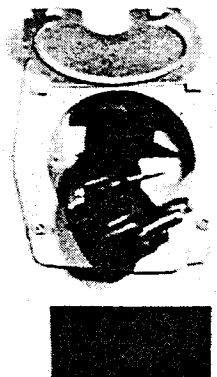

FIG. 15A
**Shoreline Connection** — Open the protection hatch and pull out the power cord (FIG. 15A or B). Plug the cord into a 110/125 VAC, 60 Hz. outlet.